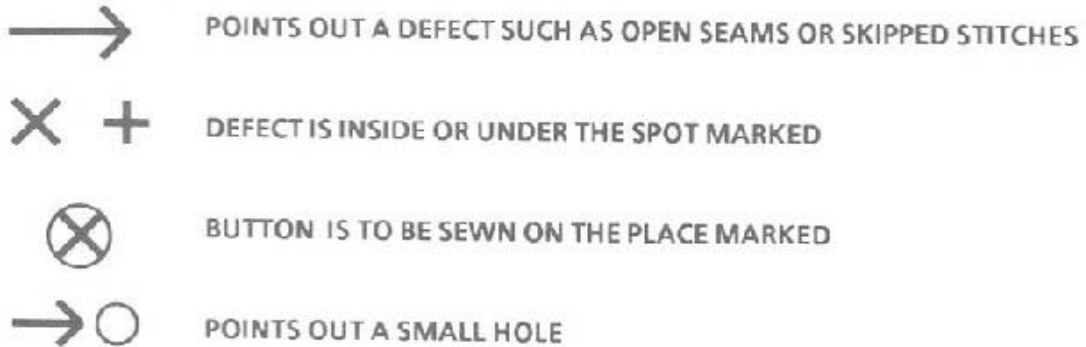

Figure 3-116
- c. Return the items with defect symbols to the initial repairer. (See Figure 3-116)